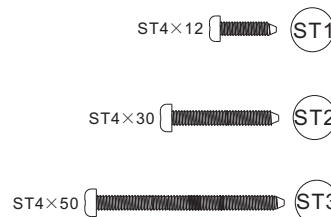

Figure 5
- a. Secure CSMA to the wall through points (M1, M4) with the screw ST2 (see Figure 5).
- c. Secure swivel to the wall through holes S1, S3, S5 and S7 with the screw ST3 (see Figure 5).
- c. Secure CSMA to the wall through points (M1, M4) with the screw ST2 (see Figure 5).
- e. Secure swivel to the wall through holes S1, S3, S5 and S7 with the screw ST3 (see Figure 5).
Secure the external base to the swivel using the four connecting screws ST1 (Figure 5).